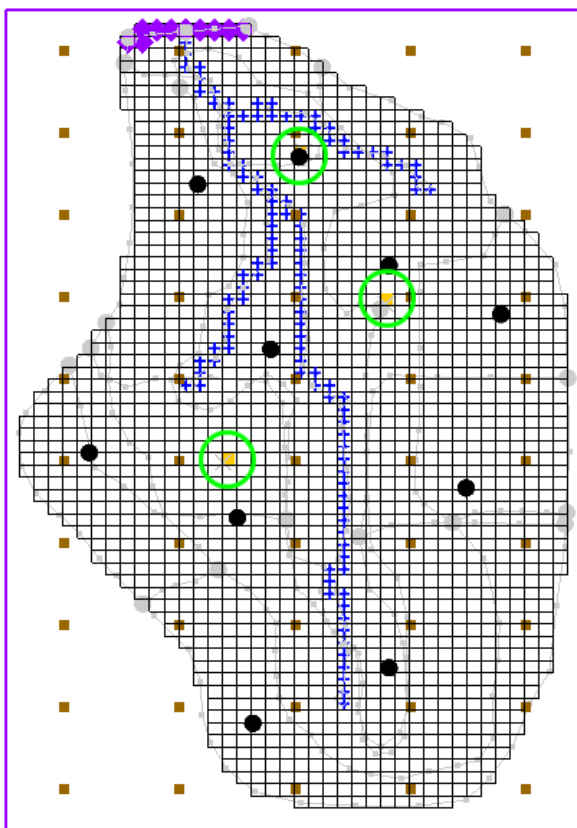

Figure 7 Location of pumping wells
Notice that there are 3 pumping wells in the model (Figure 7). For purposes of illustration, assume that a pump test was performed at each of these wells and that the HK was estimated. Create a pilot point at each of these wells.
6. Using the **Create Scatter Points**  tool, create a scatter point at each of the pumping wells as shown in Figure 7 (the center of each green circle).